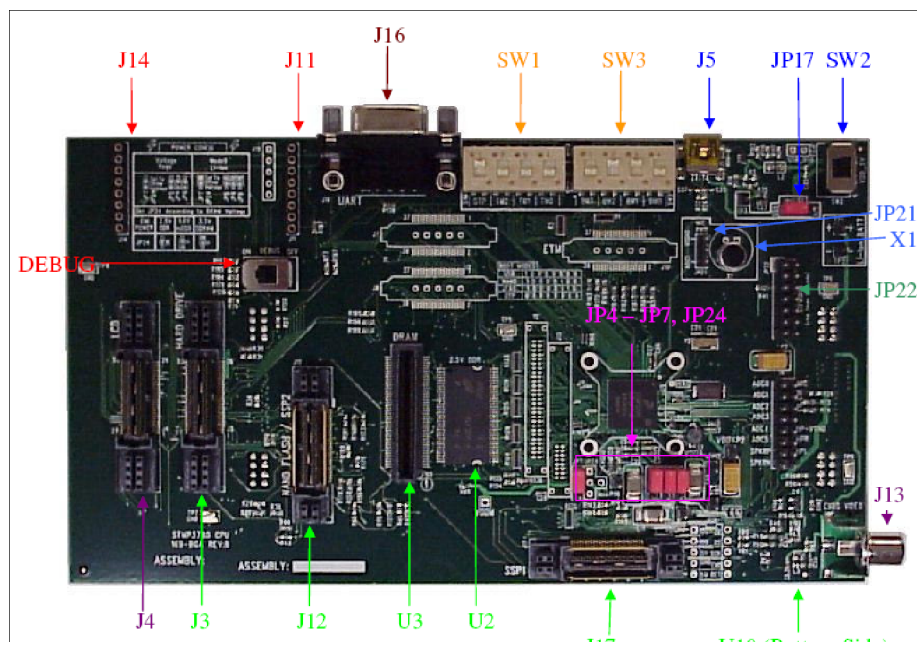

Figure B-5. STMP3780 169-BGA CPU Daughter Card
**Introduction** Figure B-5 provides a visual representation of the STMP3780 169-BGA CPU Daughter Card.